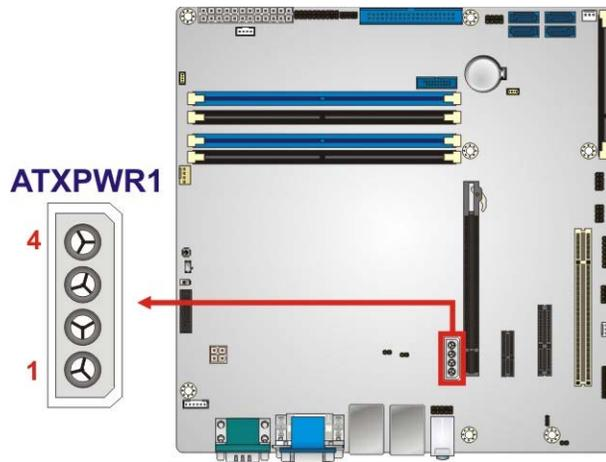

Figure 3-17: PCIe Power Location
- CN Location:** See **Figure 3-17**